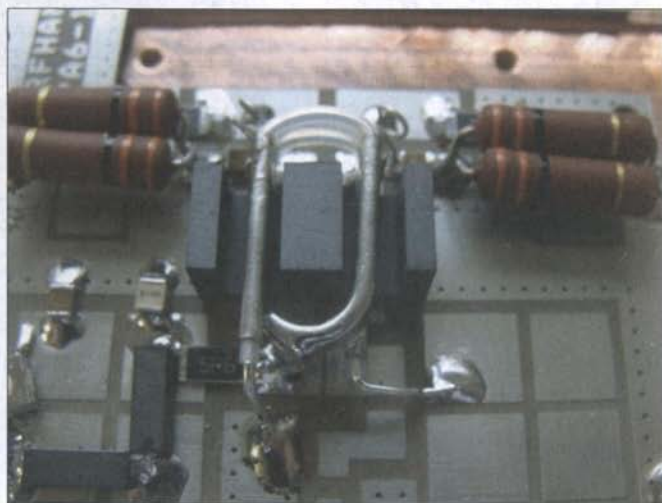

Fig. 11
4) Put the balun in place. See fig. 11.